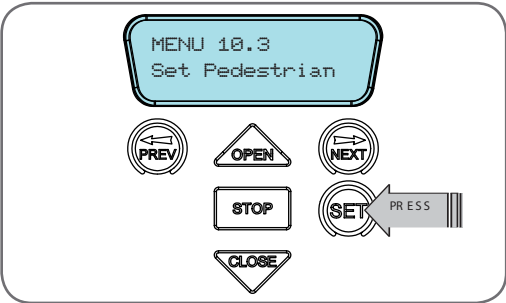

Fig 14.1
- e. Press SET on the wall control unit to save the Pedestrian Access position (Fig. 14.1).